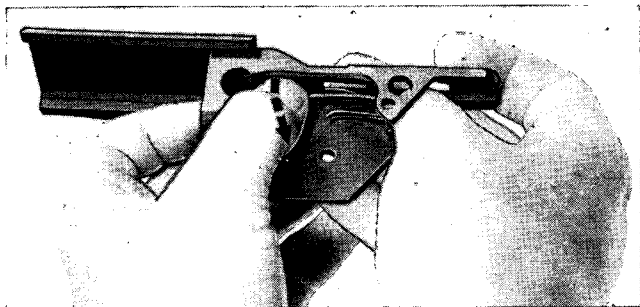

Figure 30. Replacing the clip ejector.
a. Hold the trigger housing in your right hand, with the left side down and the rear end to the right. Place the clip ejector in position in the trigger housing with the short arm toward your body and the tip of the long arm in its slot in front of the trigger housing. The loop of the clip ejector is positioned on top of its stud on the left side of the trigger housing. With your right thumb, hold the loop of the clip ejector on top of this stud. With the forefinger of your left hand, hold the long arm up in its slot on the front of the trigger housing. Place the tip of your left thumb between the long arm and the base of the trigger housing and move the long arm toward your body, at the same time exerting pressure downward. The long arm of the clip ejector will snap into the notch on the base of the trigger housing (fig. 30).